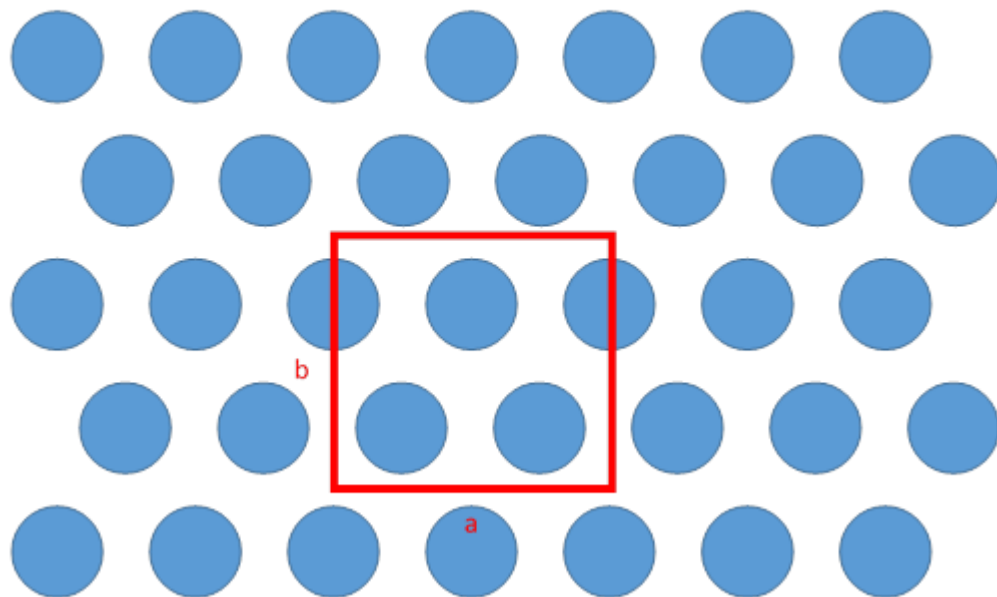

Fig1 – RVE definition
Consider the composite laminated plate used in the experimental project. Assume that each lamina of the laminated plate is reinforced by long fibers, with the same material and volume fraction as in the experimental project, and that the material of the lamina can be modeled with the “cubic” RVE, whose cross section is shown in the figure 1. Consider that the dimensions of the RVE are, respectively, (a,b,c) whose values can be found in the table below.
1. (3v) Consider the RVE defined in figure 1 with dimensions listed in the previous table. Using a Finite Element program, define an appropriate finite element mesh, and compute the equivalent material properties assuming that the RVE is subjected to stress boundary conditions, using: